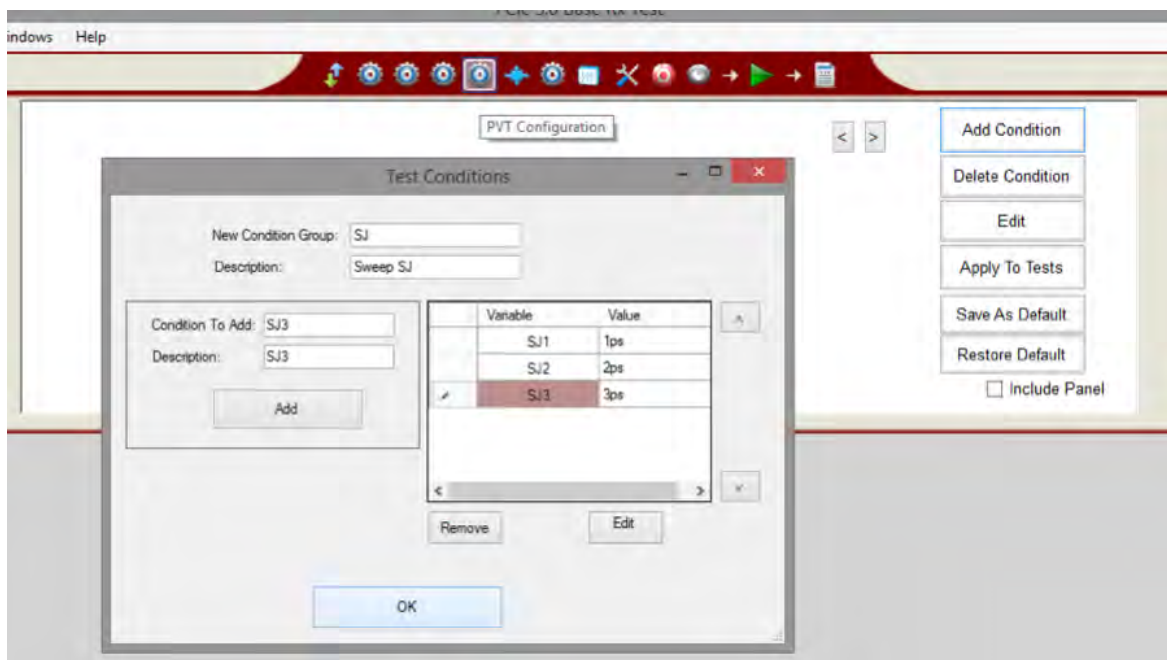
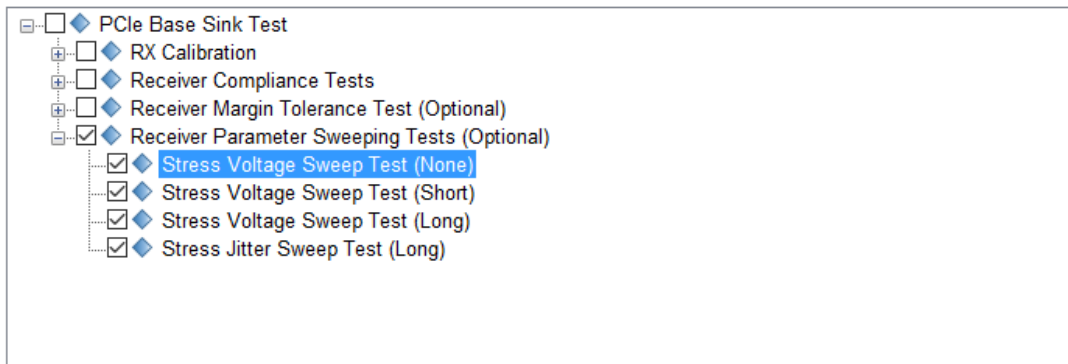

FIGURE 108 ADD FIRST PVT AUTOMATION PARAMETER
FIGURE 113. SELECT PVT TESTS TO RUN
2. Add a parameter to the selected test by selecting “Add Condition”. See Figure 108, which selects ‘SJ’ as the new condition group. No drop-down menu of allowed parameter names is provided. A short description may be provided. This description, and the names of the individual step ‘Variables’ are all included in the test results Report.
- Select the PVT tests to run (see Figure 113).
For example, considering the parameters and tests defined and selected in Figure 108 to Figure 113 will iterate as shown in Table 8. (Individual parameter step names are not shown.)